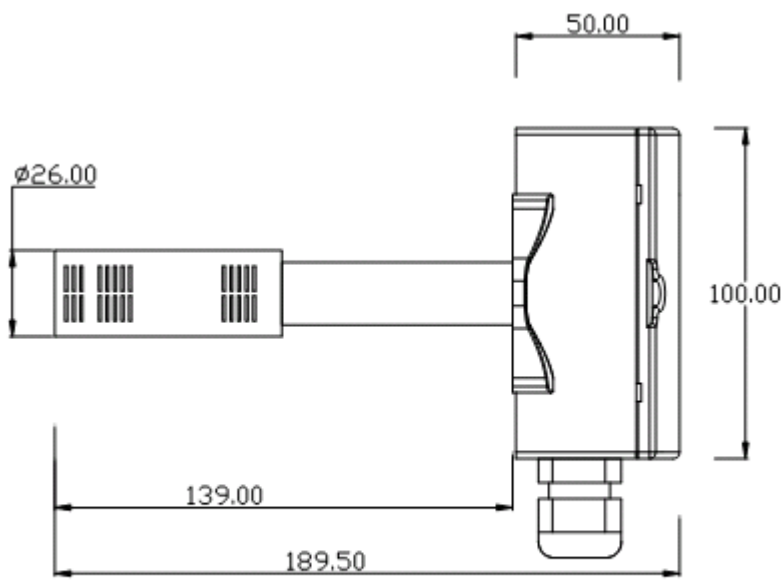

Fig.2
- ◆ Open the underside bigger notch for pass through connecting wires (see fig.2)